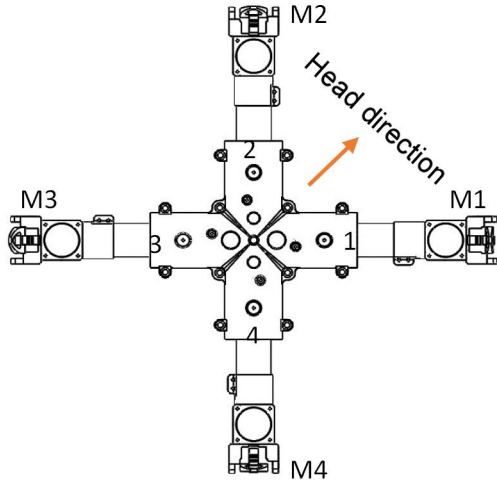
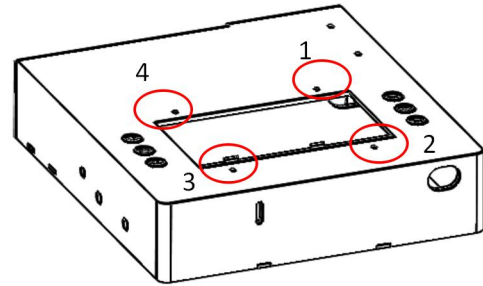
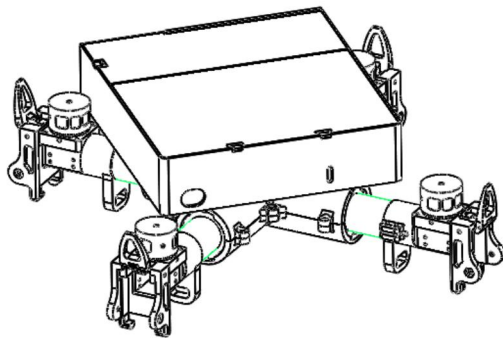
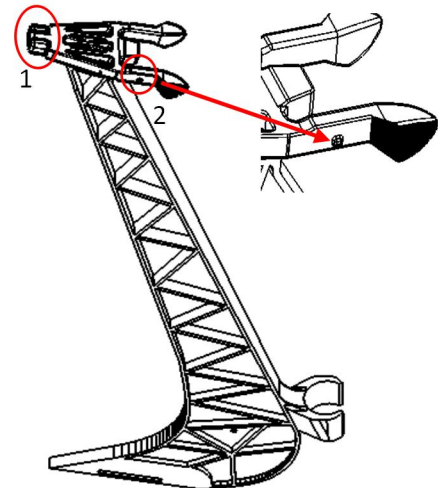

Figure 1
Figure 2
Figure 3
Figure 4
1) Fix the fuselage and flight controller component with M3*6 screws in 1,2,3,4 positions as the figure1 and figure 2, the results are shown in figure3.
- 1) Before every started, push the primer pump several times until overflow fuel flows out from the yellow pipe.(Fig.1) Check the filter to avoid clogging. Check muffler bolt to avoid loosening .(Fig.2)
- 3) Use hand puller: Close the Choke Lever(Fig.3), ① Pull hand puller. ② When hear firing noise, release the hand puller.(If engine is in warm-start condition, choking may not be necessary)
- 4) Open the Choke (Fig.3). Push start button for 2~3 seconds. Pull the starter until hearing firing noise(Fig.4)